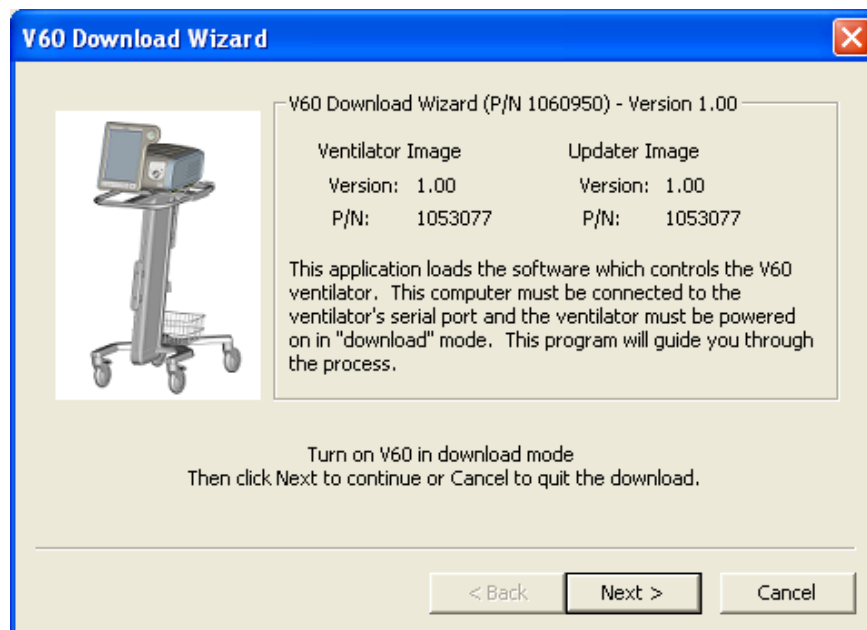

Figure A-3: Ventilator Installation Program
9. When the ventilator is in download mode, click **Next** to continue or **Cancel** to exit (Figure A-3).